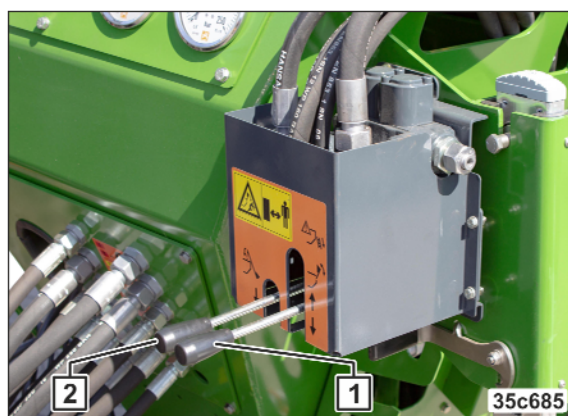

Fig. 245
2. Actuate the control unit (Fig. 245/1).
17. Actuate the control unit (see Fig. 245/1) and fold the filling auger into transport position.